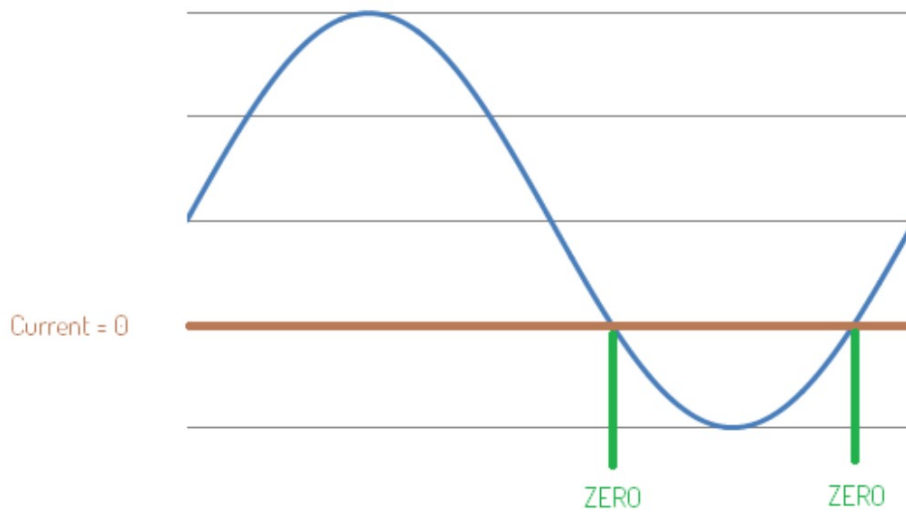

Figure 91. Trigger out event - zero level crossing
- ZERO (zero level) – A signal changed the polarity (only applicable to tACS) (Figure 91)